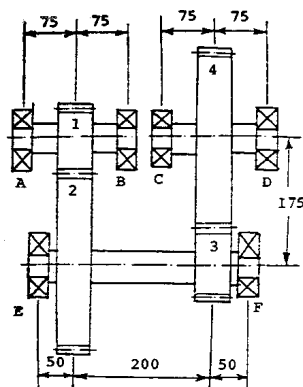

Figure 1
3. The layout of a two-stage gearbox is shown in (Figure 1). The number of teeth on the gears are as follows: